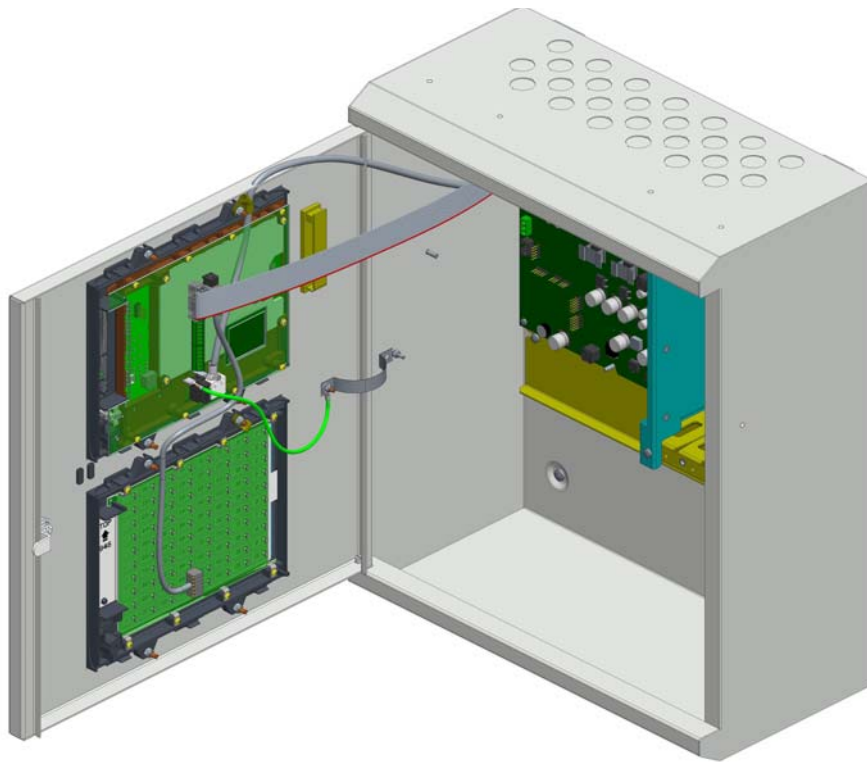

Fig. 1: FC708D
- FC708D - see Figure 1
There is a user control panel (known as the ‘GUI’, or Graphical User Interface) mounted to the front door – see Section 2.2.4 “Graphical User Interface” on page 12 (the GUI is not shown in Figures 1, 2, and 3 as these show the insides of the open doors).